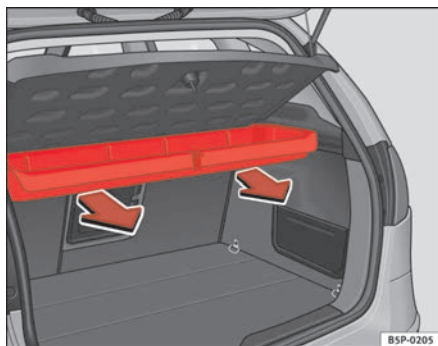

Fig. 124 Removing storage shelf
- Pull outwards until the compartment is freed from the pivot point ⇒ fig. 124.